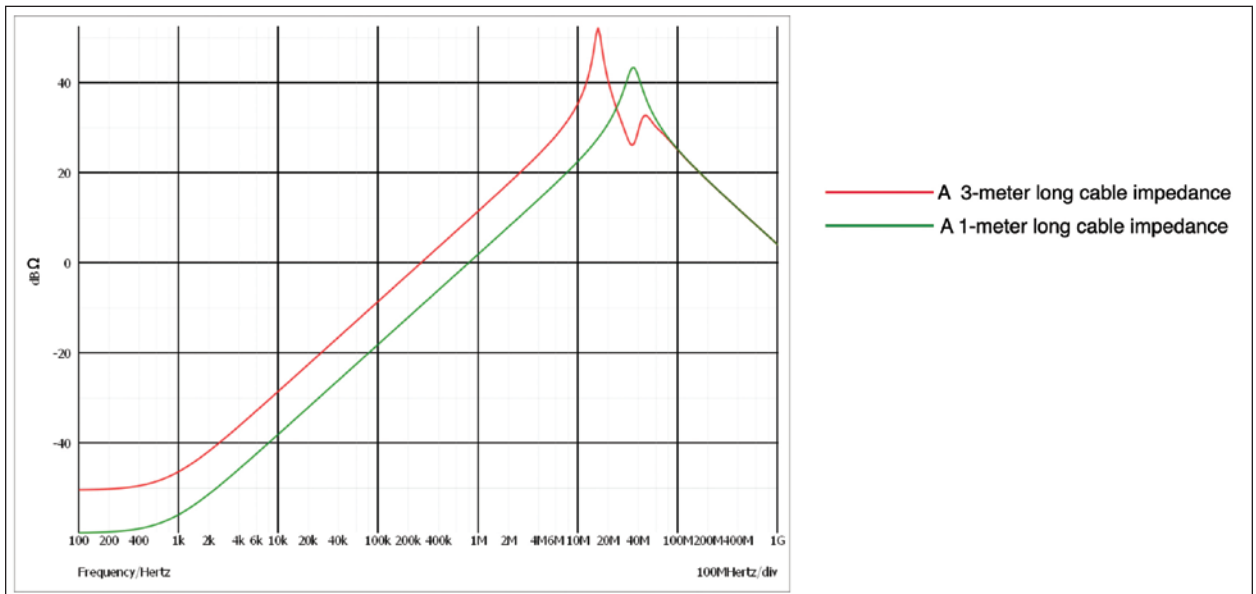

Figure 6: Simulated cable impedance, red trace – 3-meter long, green trace – 1-meter long
3. Cable impedance caused by both the cable itself and the wiring harness needs to be correctly modeled [8]. The important factors here are the coupling factor L_{eff} , which is an estimated effective loop inductance per meter and the mutual capacitance between the cables. A simulated result of cable impedance can be seen in Figure 6 on page 36.